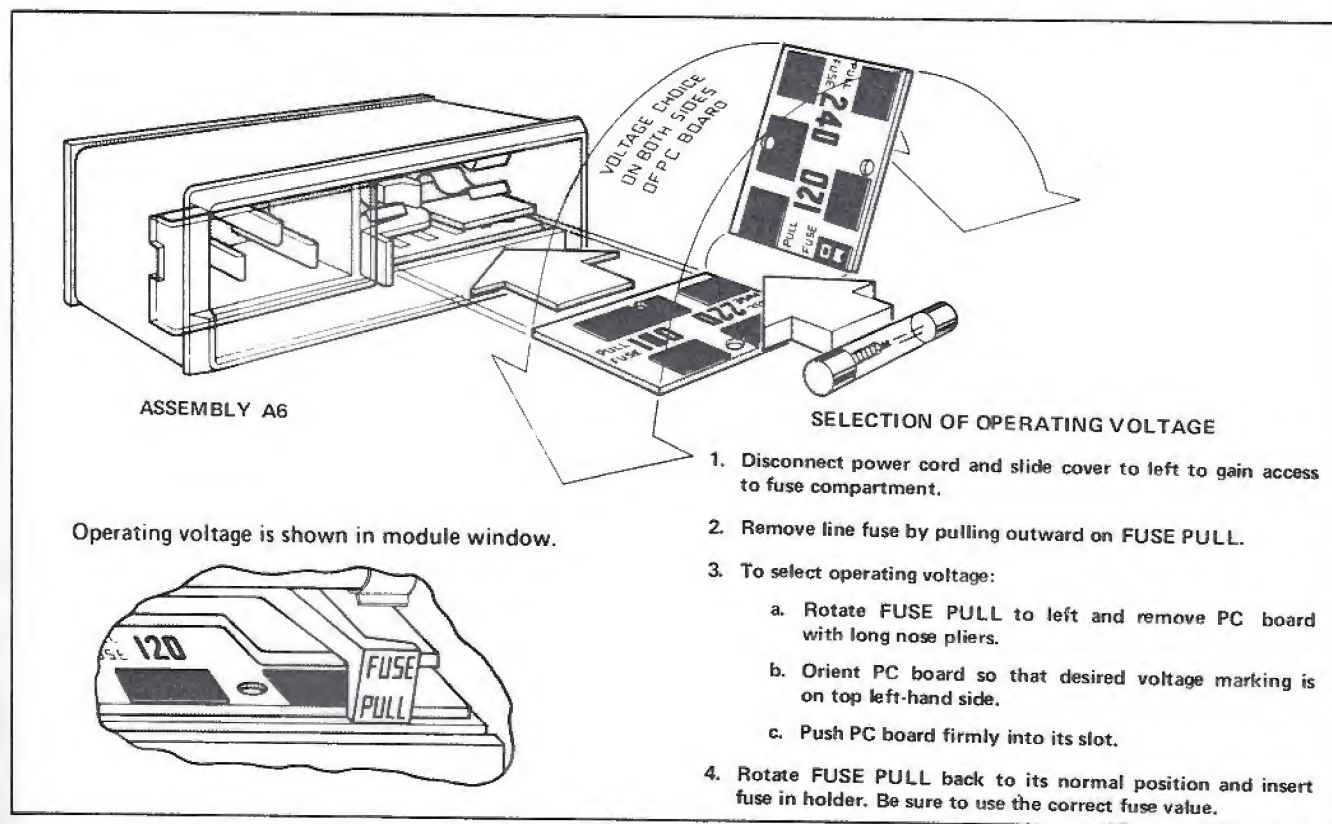

Figure 2-1. Line Voltage Selection
- b. Refer to Figure 2-1. At the instrument's rear panel power line module, select the line voltage (100V, 120V, 220V, or 240V) closest to the voltage you measured in step a. Line voltage must be within +5% or -10% of the voltage setting.